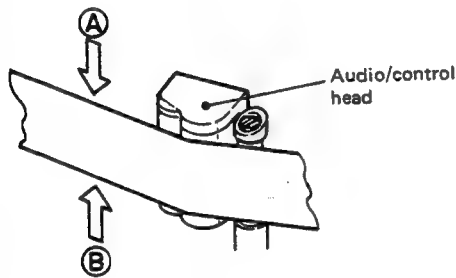

Fig. 2-53 Audio head height check
3. Check that the audio output level increase does not exceed 0.5 dB as the tape is lightly pressed down point (A) as shown in Fig. 2-53.
4. In the same manner, check that the audio CH-2 level increase does not exceed 0.5 dB as the tape is lightly pushed up at point (B).